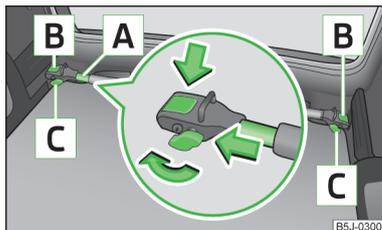

Fig. 73
- Undo the securing screws [C] » Fig. 73 and remove a little to unlock the retainers [B].